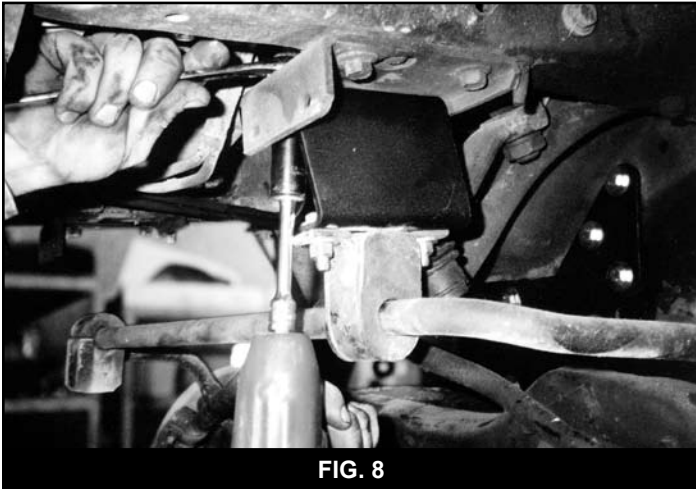

FIG. 8
20. Support the anti-sway bar with a jack and then disconnect it from the frame. The anti-sway bar is attached with two bolts on each side. Install the BDS anti-sway bar drop brackets using 3/8" x 1" bolts (Qty 4), nuts, and washers. Install the bracket so the "U" channel of the bracket is facing the center of the vehicle and the angle going back toward the bottom of the bracket. Tighten all fasteners after the assembly is complete. (Fig. 8)